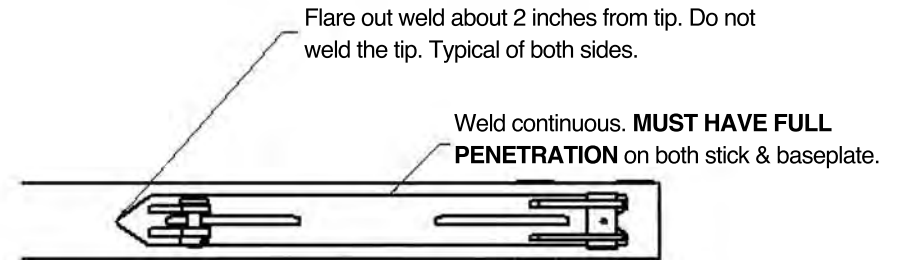

FIGURE 4
14. Once satisfied with the thumb position of the thumb on the stick, weld the base plate to the stick. A minimum ½" fillet weld should be placed along the outside edges of the base plate, weld continuous. **MAKE SURE TO HAVE FULL PENETRATION ON STICK AND BASEPLATE.** Weld the inside slots also. See figure 4 for welding reference.